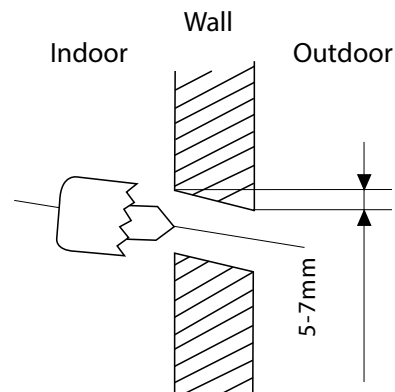

Fig. 5.3
2. Using a 65-mm core drill, drill a hole in the wall. Make sure that the hole is drilled at a slight downward angle, so that the outdoor end of the hole is lower than the indoor end by about 5mm to 7mm. This will ensure proper water drainage. (See **Fig. 5.3**)